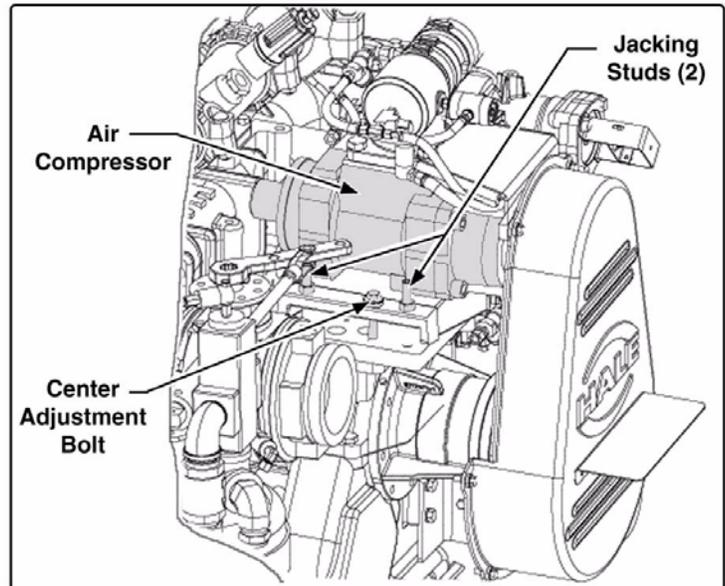

Figure 7-6: Belt Tension Adjustment Bolts
- Loosen the bolt located in the middle of the compressor mounting bracket. (See Figure 7-6: 'Belt Tension Adjustment Bolts' on page 59.)
Make sure that the two nuts are tight to the bracket. (See Figure 7-6: 'Belt Tension Adjustment Bolts.')